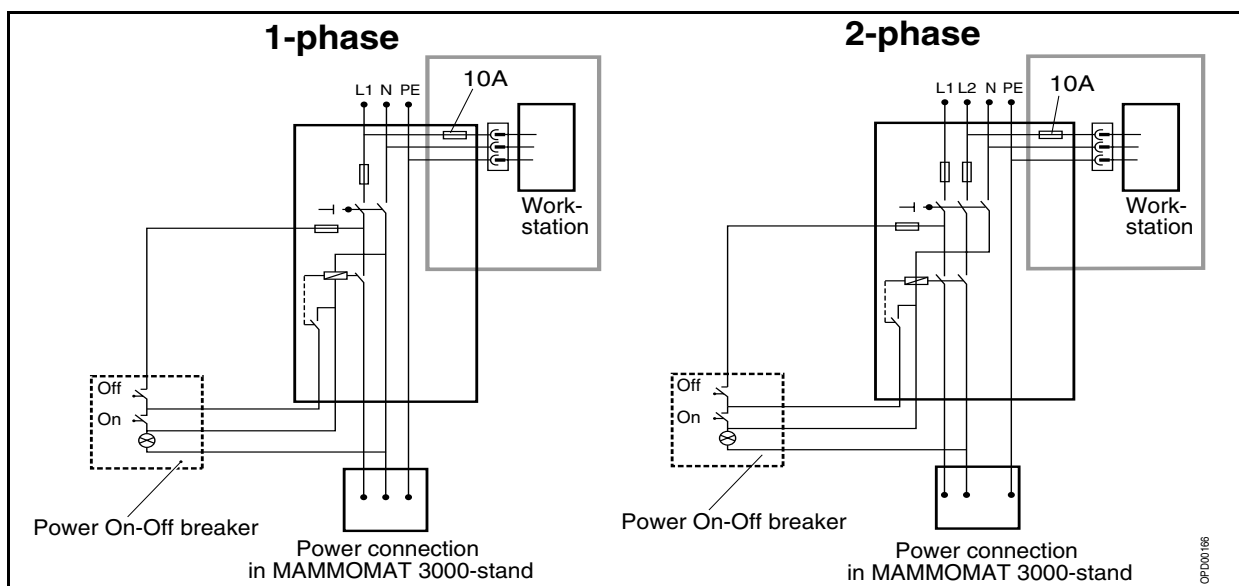
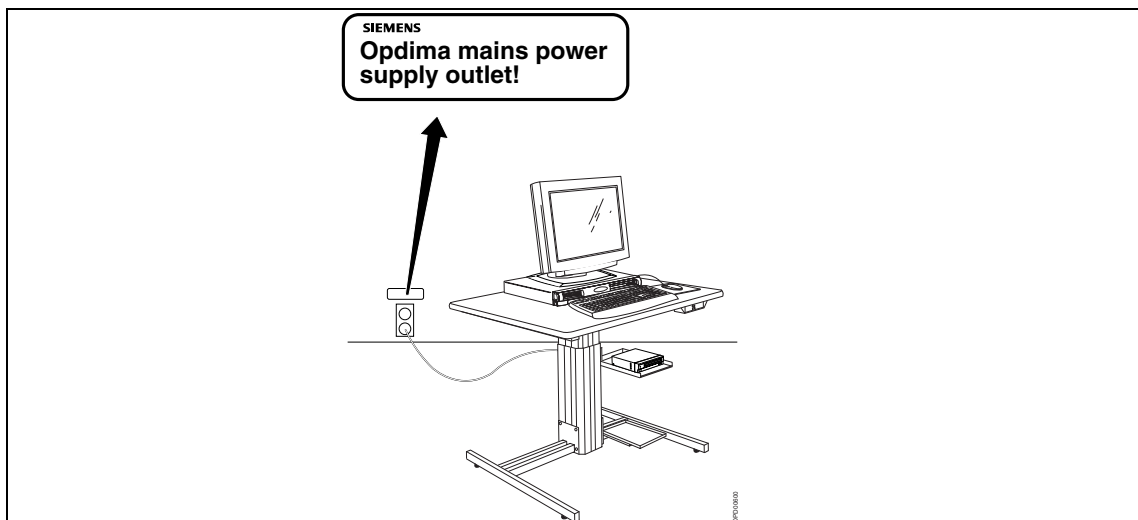

Fig. 11 Power distribution
Fig. 12 Mains marking label
12. Mark the wall socket connected to the same branch circuit as the MAMMOMAT (Fig. 11) with label according to Fig. 12.
The power distribution to the system is shown in Fig. 11.